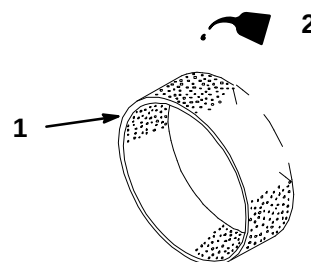

Figure 19
- C. Put one or two ounces of oil on the element (Fig. 19). Squeeze the element to distribute the oil.